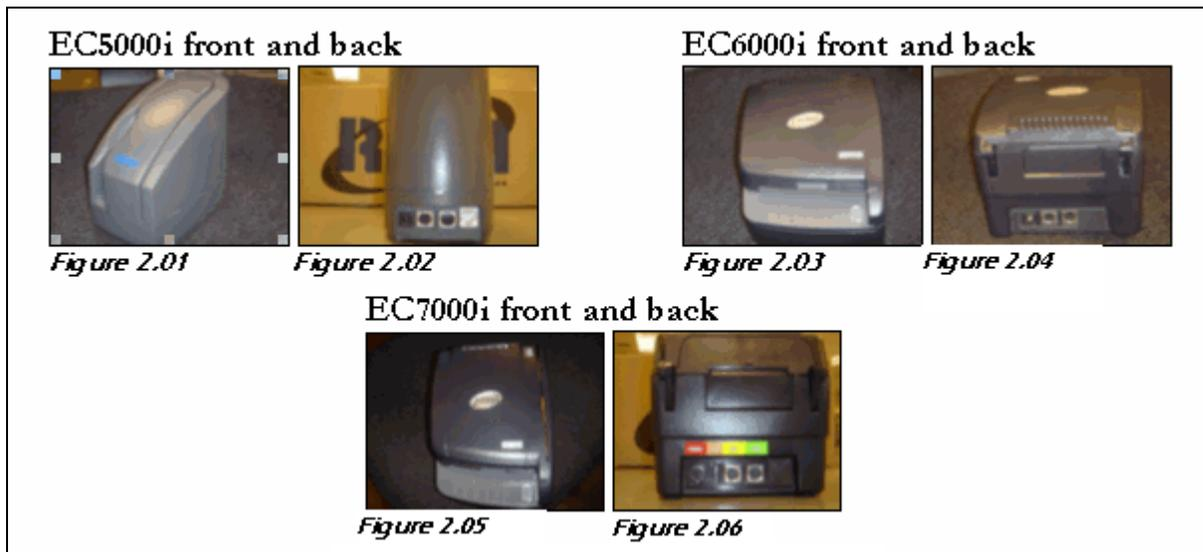

Figure 2.06.1
1. EC5000i (Figures 2.01 and 2.02) or EC6000i (Figures 2.03 and 2.04), or EC7000i scanner unit (Figures 2.05 and 2.06), and the Panini MyVision scanner (Figure 2.06.1)